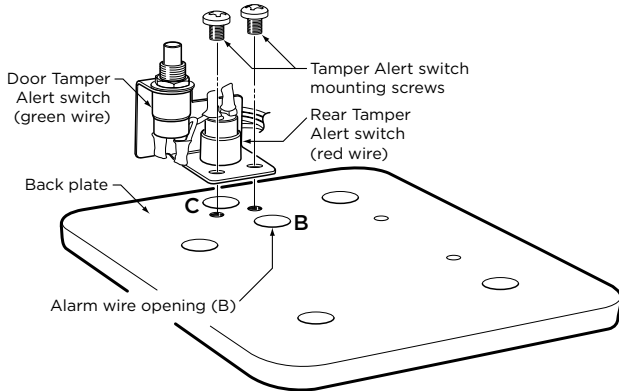

Figure 2
3. Position Knox Residential Box on wall so wires from alarm panel protrude into box through hole (B) in back plate. See Figures 2, 3 and 4.